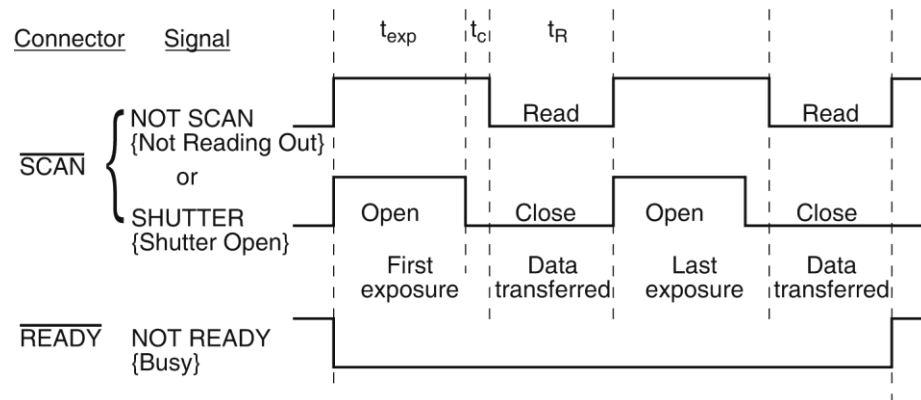

Figure 37. Comparison of NOT SCAN {Not Reading Out}, SHUTTER {Shutter Open}, and NOT READY {Busy} Logic Output Levels
- **NOT READY {Busy}**: After a start acquisition command, this output changes state on completion of the array cleaning cycles that precede the first exposure. Initially high, it goes low to mark the beginning of the first exposure. In free run operation it remains low until the system is halted. If a specific number of frames have been programmed, it remains low until all have been taken and then returns high. Figure 37 assumes 3 frames have been programmed.